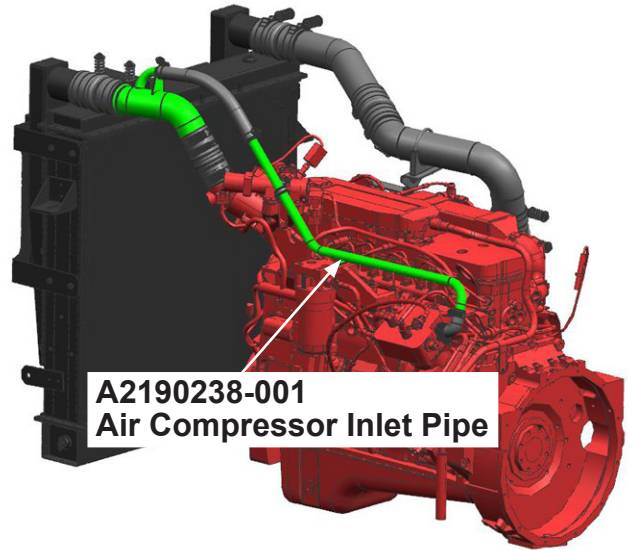

Figure 2
4. Install the new air compressor inlet pipe (A2190238-001) and tighten the constant torque clamps (3) to 72 in.-lb of torque. (See Figure 2).